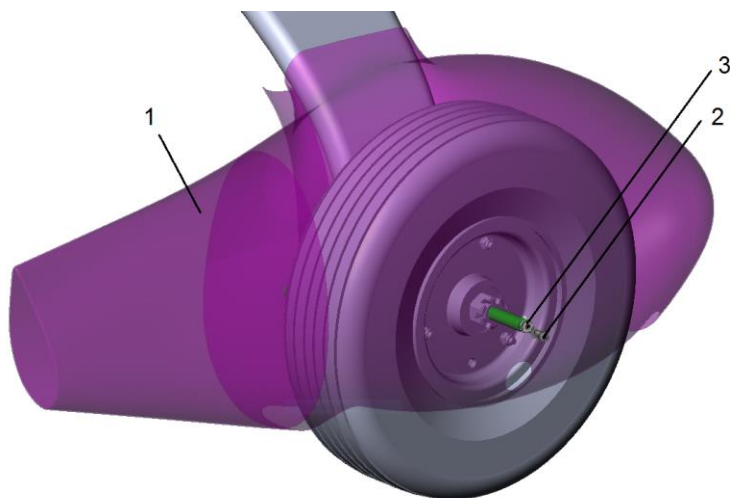
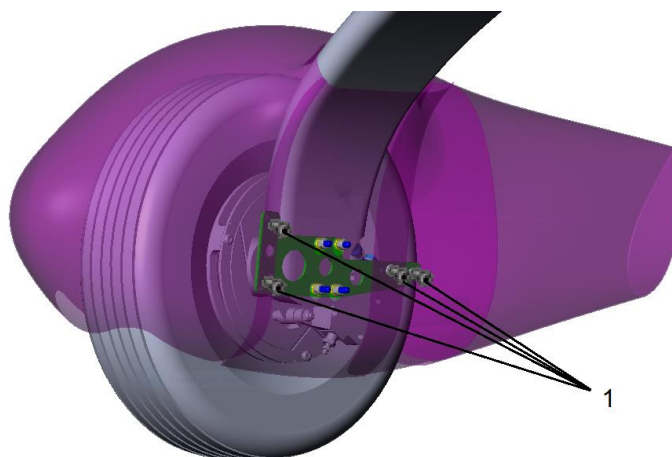

Fig. 32-10-3
Fig. 32-10-4
B. Main Wheel Fairing Removal. Fig. 32-10-3, Fig. 32-10-4.